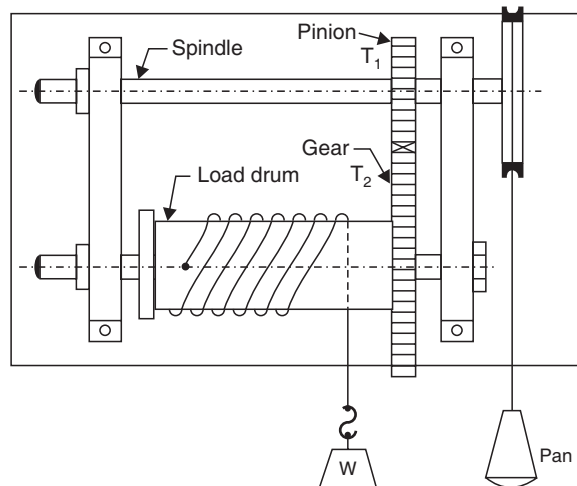

Fig. 8.1. Single purchase crab winch apparatus.
**Theory.** The single purchase crab winch apparatus consists of two toothed wheels, one small and the other large one. Smaller wheel is known as a *pinion* while the larger one is called *gear*. These wheels are mounted on two spindles as shown in Fig. 8.1. The gear is attached to the load drum. A string/rope is wound round the drum which carries the load  $W$  to be lifted. Another string/rope passes round the pulley to which is attached a scale pan in which weights are added to find the value of effort ' $P$ ' required to lift the load ' $W$ '.